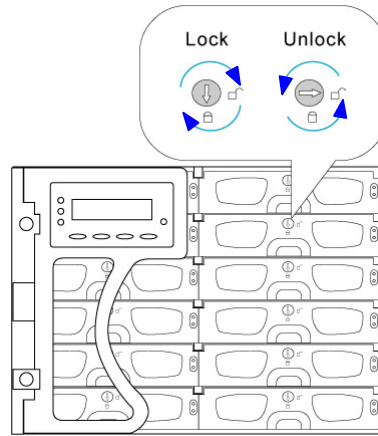

Figure 2-18: Drive Tray Key-lock Rotation
- Step 5. **Lock the flap into place.** Use a flathead screwdriver to turn the key-lock until the groove on its face is in a vertical orientation. (See *Figure 2-18*)